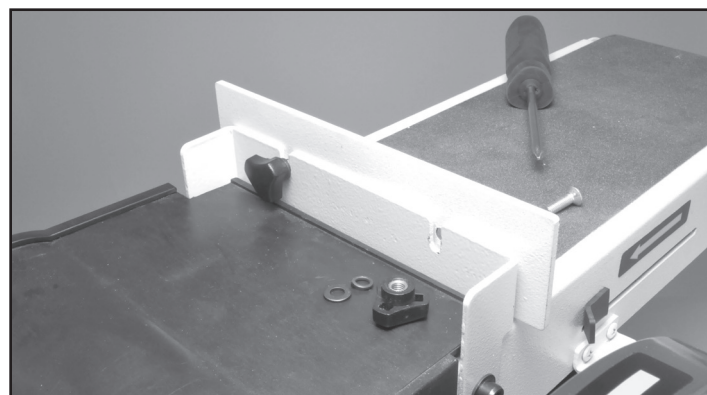

FIG. 3
2. Insert two star-head Screws (#54) through the countersunk holes in the large Fence and install the Knobs (#57) on their threaded ends. (Washers shown in FIG. 3 are optional, not included with sander).
3. Slide the large fence's 2 screws with knobs over the two slots in the small fence and fasten in place. Pending on the material being sanded, the large fence can easily be removed by just loosening the two knobs and sliding it off the small fence. FIG. 3.